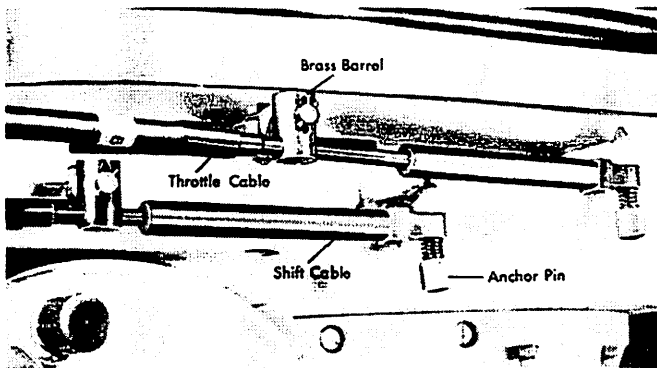

Figure 12. Cable Adjustments
3. Align brass barrel on throttle cable so that distributor is held lightly against idle stop screw with cable installed. (Figure 12)
6. If necessary, readjust brass barrel on cable to accomplish correct final adjustment. (Figure 12)